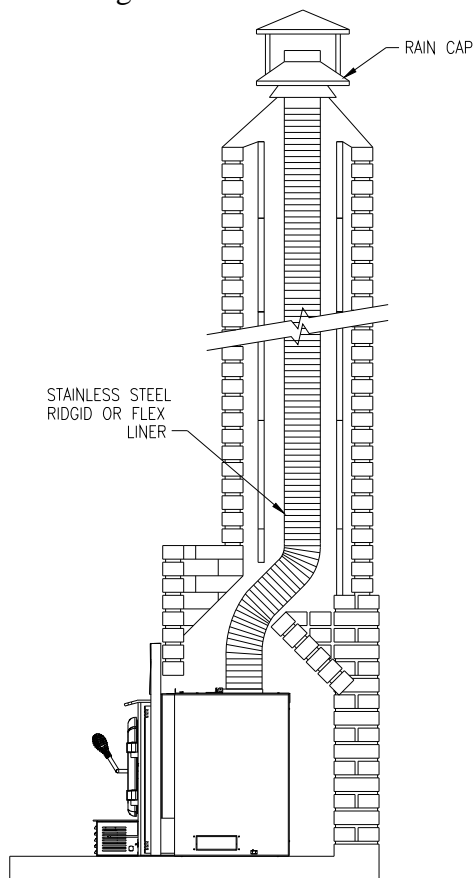
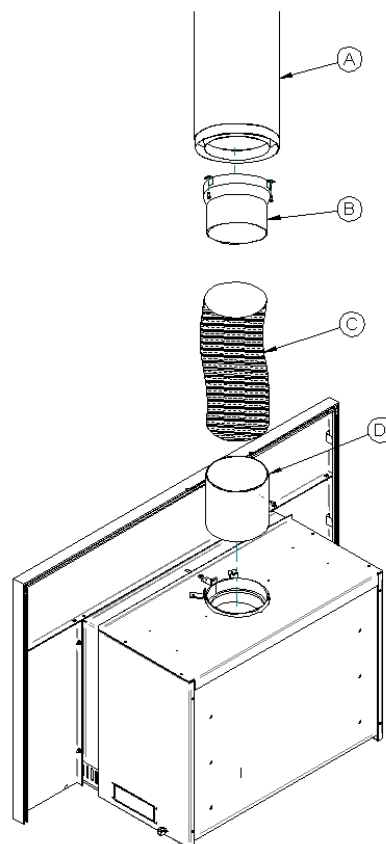

Figure 2.2
Figure 2.3
The flue is a critical component to a satisfactory installation. Your insert will attain its best performance if installed with a flue that generates its own draft. The minimum venting requirement will be the installation of a flue connector from the insert into the first tile of the chimney (see Figure 2.3). If you are using a masonry chimney, it is important that it be built in compliance with the specifications of the National Building Code or other applicable standard having jurisdiction. It must be lined with fire clay bricks, metal or clay tiles sealed together with fire cement (round flues are the most efficient). Ideally, the interior diameter of the masonry chimney should be identical to the insert smoke exhaust. You may also run a stainless steel liner inside the masonry chimney. A continuous 6" (152mm) stainless steel liner from the top of the chimney to the insert's smoke exhaust (see Figure 2.2) is the optimum system and will provide the best performance, as well as compensate for poor draft situations caused by large cross-sectional chimneys. The insert will not work without a positive seal in the chimney.
3. **CONNECTOR INSTALLATION:** A flue connector may provide acceptable performance, however, we recommend the use of a chimney liner to ensure satisfactory performance. Slip connectors for continuous liners should also be installed. Use Listed Chimney Liners – UL1777, CAN/ULC-S635. The connector must be secured with a minimum of three screws. In order to connect the chimney liner to a chimney, refer to figure 2.3 and follow these steps. Secure a stove pipe adapter (B) to the chimney (A). Then, secure the chimney liner (C) to the stove pipe adapter (B). Secure the chimney liner (C) to the adapter (D). Finally, secure the adapter (D) to the appliance.